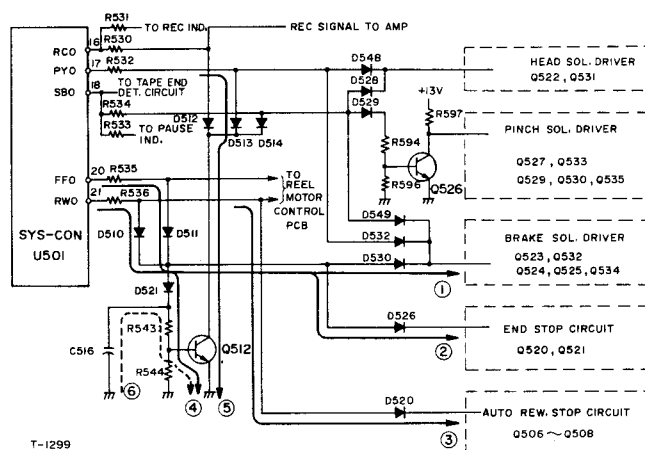

Fig. 13 Fast Forward and Rewind Circuit
With Q506 turned on, a high level signal is supplied to pin 8 via route (6) and the deck is set in the PLAY mode. When the operation mode is changed from REWIND to PLAY, about 200 milliseconds delay time elapses. (Refer to the paragraphs 2.5 and Fig. 13)